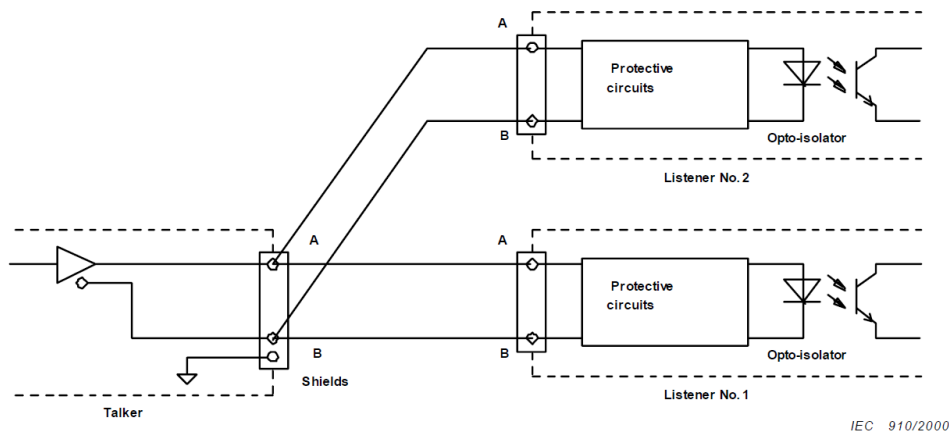

Figure 9: IEC 61162-1 Circuits
- One talker (Tx side, commonly a sensor such as GPS) may be connected to one or more listeners (Rx side, e.g. displays or computer systems such as ECDIS). The circuit looks as shown in *Figure 9: IEC 61162-1 Circuits* on page 15.